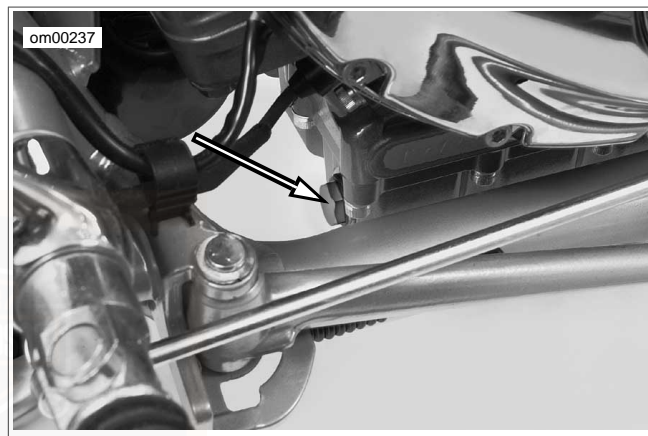

Figure 30. Oil Drain Plug: VRSC Models
1. See Figure 30. Loosen the oil drain plug and completely drain the oil.
6. See Figure 30. Install the engine oil drain plug. Tighten the drain plug to 30-40 Nm (22-30 ft-lbs).